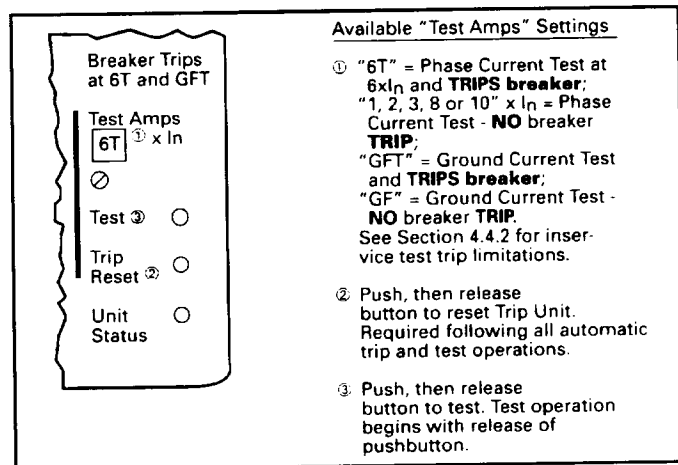

Fig. 9 Integral Test Panel (Lower Right Corner of Trip Unit)
As indicated in Fig. 9, note 1, six different “Test Amps” settings (1, 2, 3, 6T, 8 and 10 x I_n) are available for testing the phase elements of the Trip Unit, and two settings (GF and GFT) are provided for testing the ground element.
1. Place the “TEST AMPS” selector switch (see Fig. 9) in one of the six “No Trip” test settings, i.e., 1, 2, 3, 8, or 10 x I_n , or GF.
4. Reset the Trip Unit by pressing and releasing the “TRIP RESET” push-button; all LEDs lighted by the “No Trip” test action should turn “OFF”, and the display will again show the value of the current through the breaker. In the event that no one resets the Trip Unit after a test, it will wait for about three (3) hours, and then it will automatically revert back to its pretest status.
2. Place the "TEST AMPS" selector switch (See Fig. 9) in either the "6T" (or "GFT") position.
3. Press and release the (Black) "TEST" push-button (See Fig. 9) — the test starts when the push-button is released and the elapsed time is displayed in the window.
5. Reset the Trip Unit by pressing and releasing the "Trip Reset" push-button (See Fig. 9). All LEDs lighted by the "Trip" test action should turn "OFF", and the display window will again show the value of current flowing in the breaker.